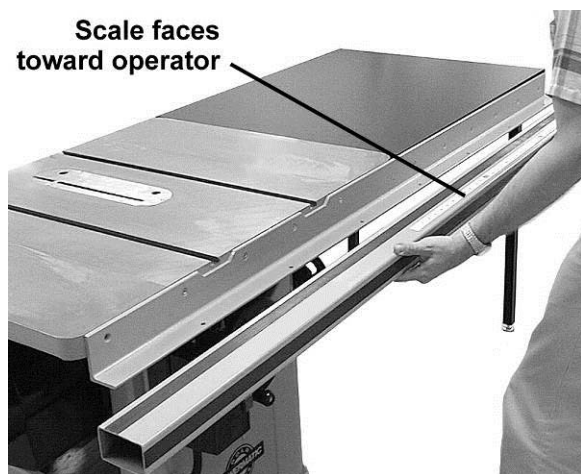

Figure 12
1. The *guide tube* mounts to the *front rail* with the *scale* facing toward the operator (Figure 12). Align the holes in the bottom of the *guide tube* with the holes in the *front rail*. When properly positioned the *guide tube* should extend beyond the *front rail* about 6" in both directions.